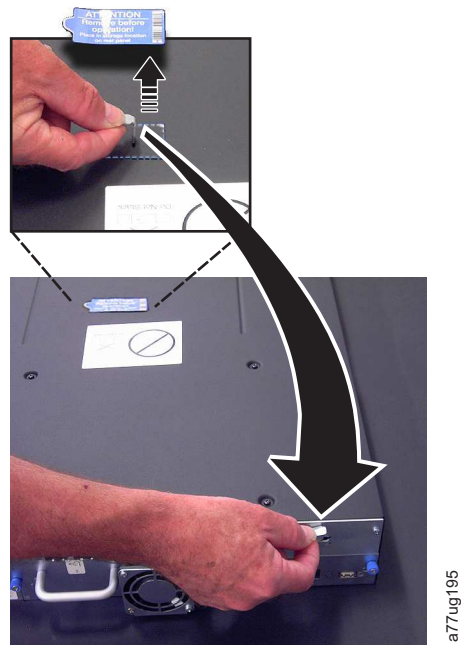

Figure 180. Removing the shipping label and lock from the top of the library and storing on the rear panel
4. Remove the shipping lock from the top of the replacement library enclosure (see Figure 180).